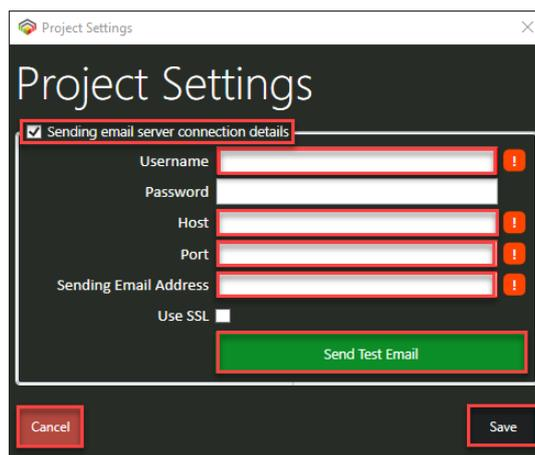

Figure 83. *Project Settings* dialog to setup system email alerts.
GeoSLAM Volumes provides the user with the ability to set up email alerts when either min and /or max, net volume, net tonnage or a height above the reference floor values are met. The *Project Settings* dialog (Figure 83) prompts the user to enter the host and server details from where the email alerts are sent.
4. This will open the *Project Settings* dialog (Figure 83).